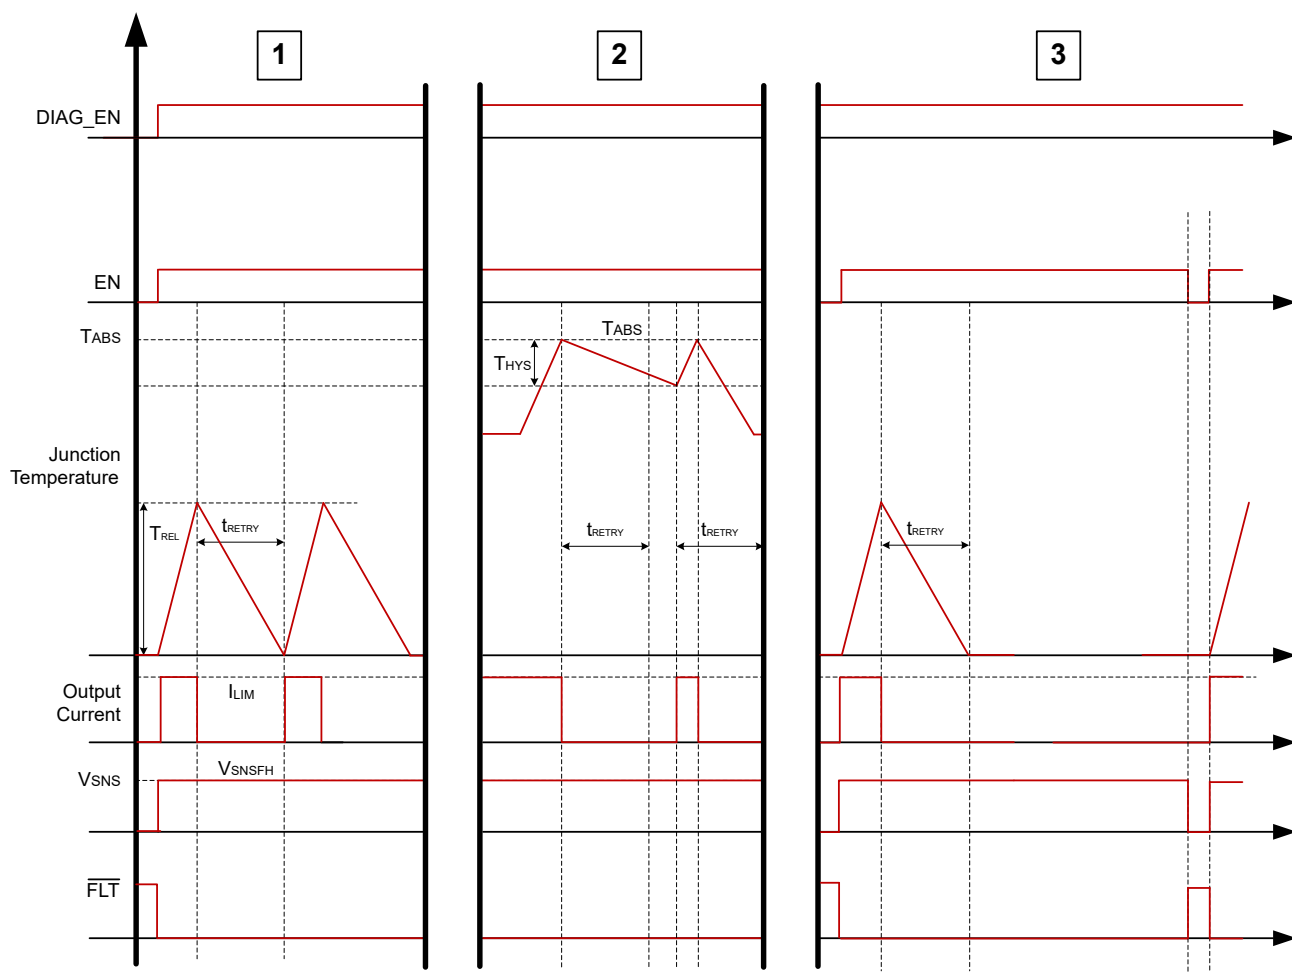

Figure 7-14. Thermal Behavior
The thermal protection behavior can be split up into three categories of events that can happen. Figure 7-14 shows each of these categories.
1. **Relative thermal shutdown:** The device is enabled into an overcurrent event. The output current rises up to the I_{LIM} level and the $\overline{FLT}$ goes low. With this large amount of current going through the junction temperature of the FET increases rapidly with respect to the controller temperature. When the power FET temperature rises T_{REL} amount above the controller junction temperature $\Delta T = T_{FET} - T_{CON} > T_{REL}$, the device shuts down. For auto-retry version, after t_{RETRY} , the part tries to restart. The latch version requires EN to be toggled to re-enable the channel. The $\overline{FLT}$ pin is asserted until the fault condition is cleared. The first plot in Figure 7-14 shows the relative thermal shutdown behavior for the auto-retry version.
2. **Absolute thermal shutdown:** the device is still enabled in an overcurrent event. However, in this case the junction temperature rises up and hits an absolute reference temperature, T_{ABS} , and then shuts down. For auto-retry version, the device does not recover until both $T_J < T_{ABS} - T_{hys}$ and the t_{RETRY} timer has expired. For latch version, toggling EN is required to re-enable the channel. The second plot in Figure 7-14 shows the absolute thermal shutdown behavior for the auto-retry version.
3. **Latch behavior:** the device is enabled into an overcurrent event. The DIAG_EN pin is high so that diagnostics can be monitored on SNS and FLT. For the latched version of the device, if the part shuts down due to a thermal fault, either relative thermal shutdown or absolute thermal shutdown, the device does not enable the channel until the EN pin is toggled. The third plot in Figure 7-14 shows the relative thermal shutdown behavior for the variants with LATCH pin when LATCH pin is HIGH.